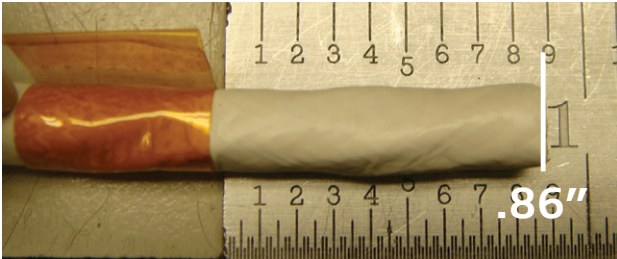

Figure 52: Marking the cable
- a. Using a Sharpie or tape, mark the outer jacket at 0.86 inches from the end (Figure 52).